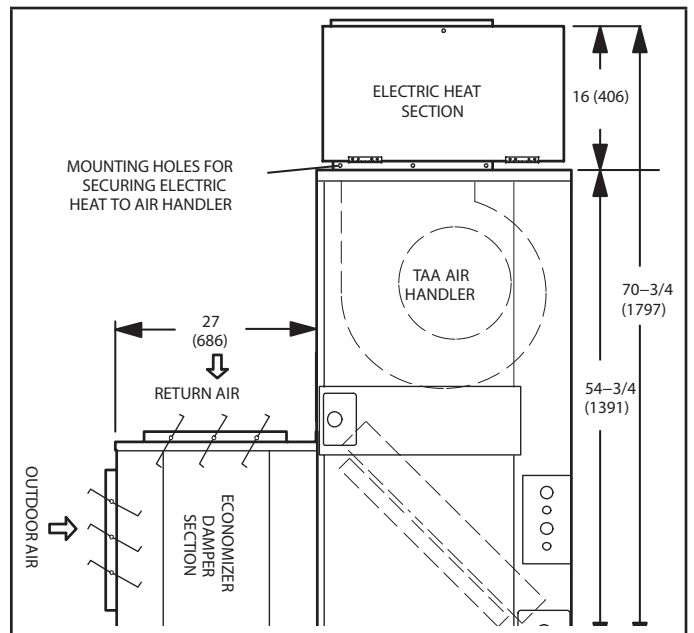
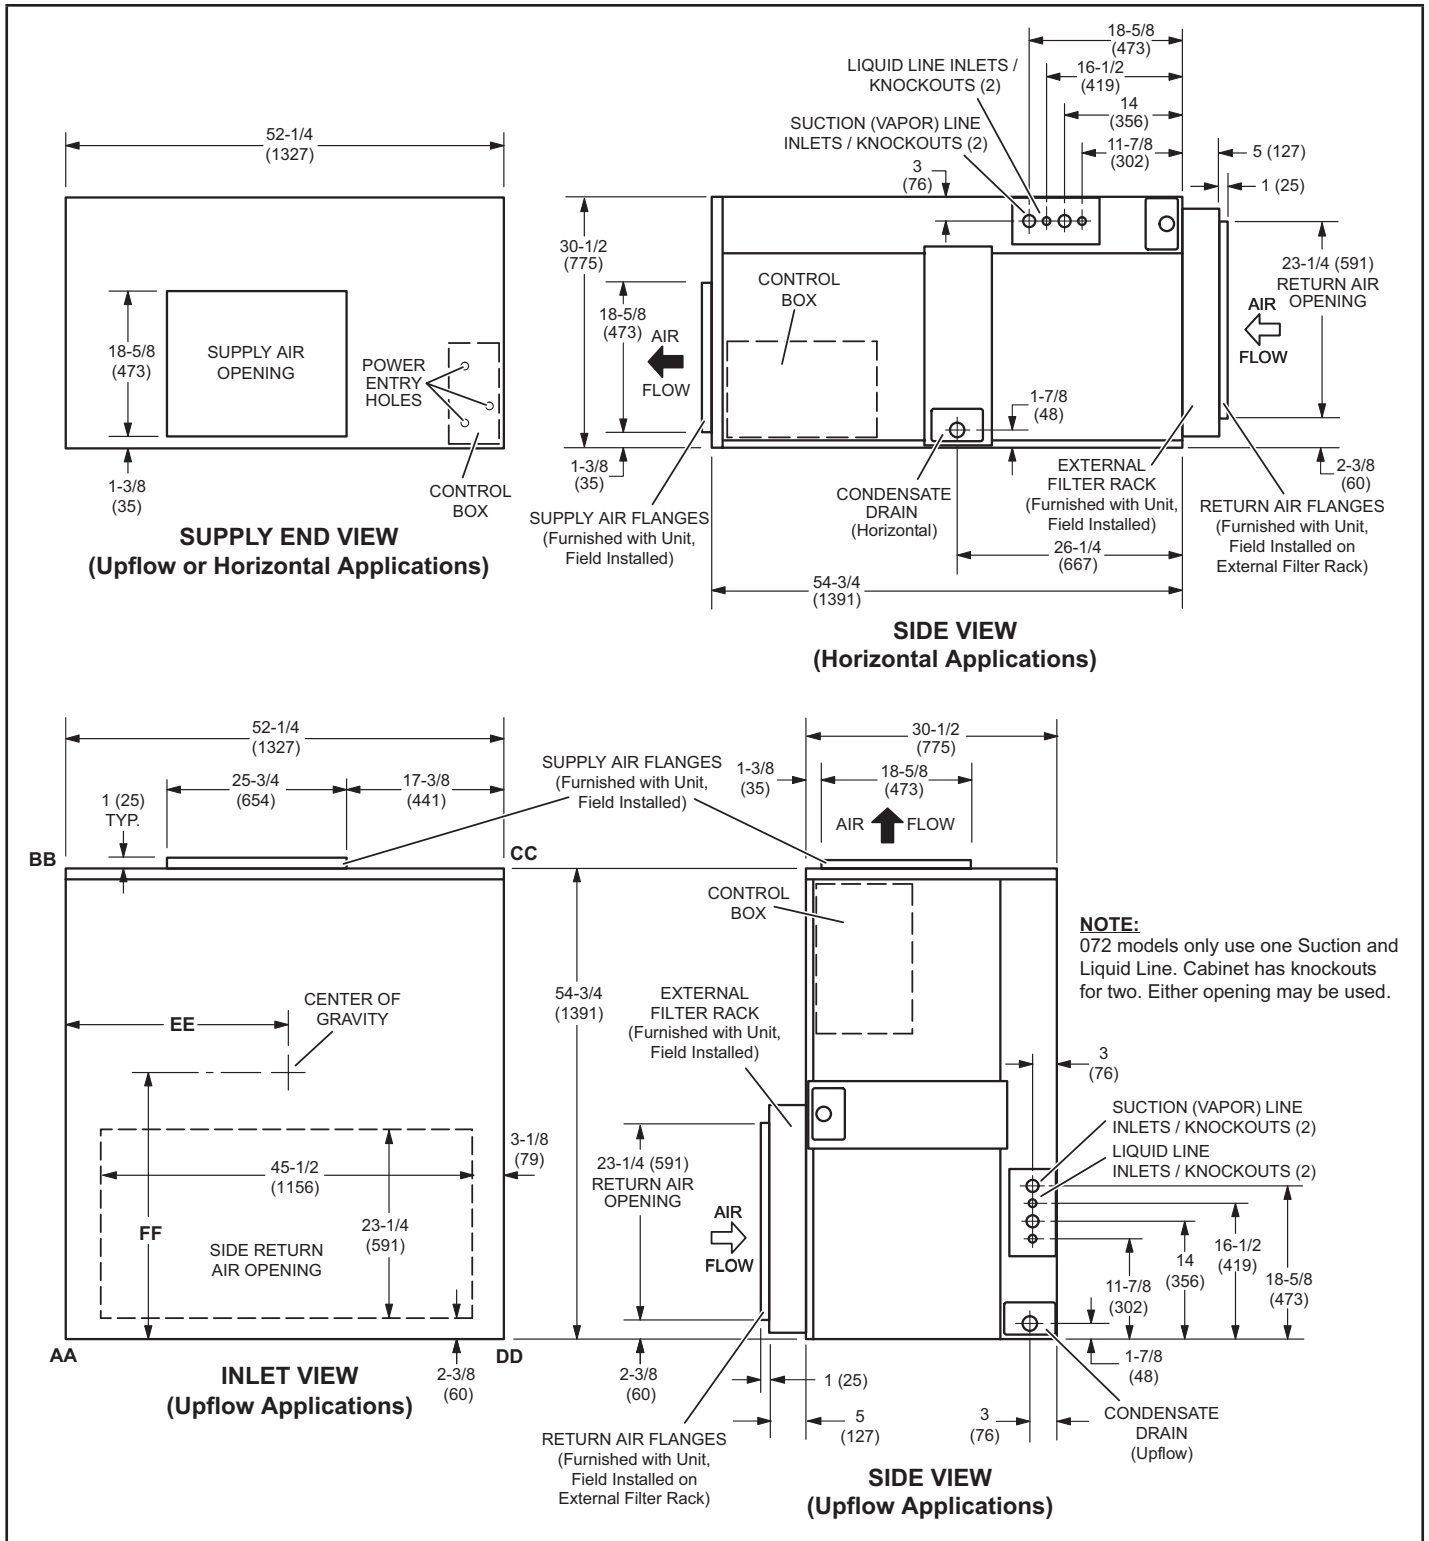

FIGURE 4. TAA Upflow Application - Dimensions - inches (mm)
FIGURE 6. ELA 072-090 Unit Dimensions – inches (mm)
T3EH series heat sections are used as primary heaters for ELA 072-240 and TAA 072-240 series units. T3EH heat sections may be installed in either upflow or horizontal air discharge applications as illustrated in figures 4 through 8. The T3EH units are designed for indoor use only.
- 6 - Align the electric heat section unit with the air handler unit. Align the grommet on the T3EH with the knockout as illustrated in figures 4 and 5 for the TAA units and figures 6 through 8 for the ELA units.